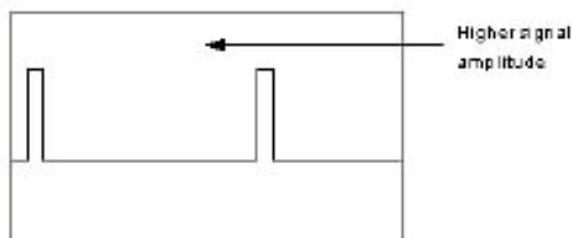

Figure 7-1. Signal at TP8 of Demodulator 1.
3. Place scope probe at TP8 of Demodulator 1. A display approximate to that shown in **Figure 7-1** should appear on the screen.